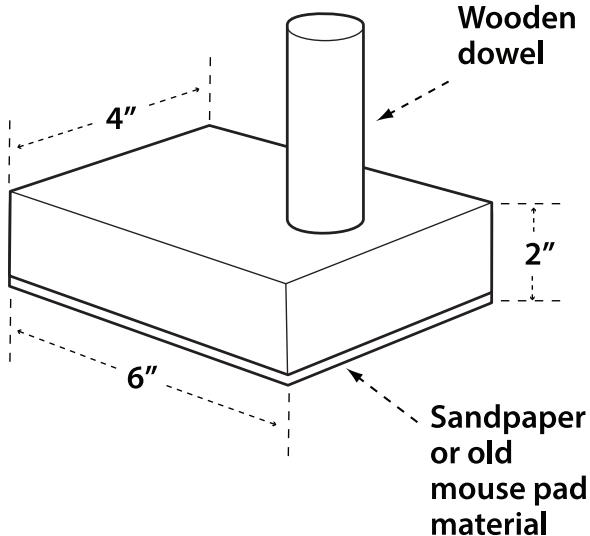

FIGURE 27
3. Glue a piece of rough or soft material such as sandpaper or rubber to the bottom of the block to grip the workpiece (old mouse pads work well). (Fig. 27).